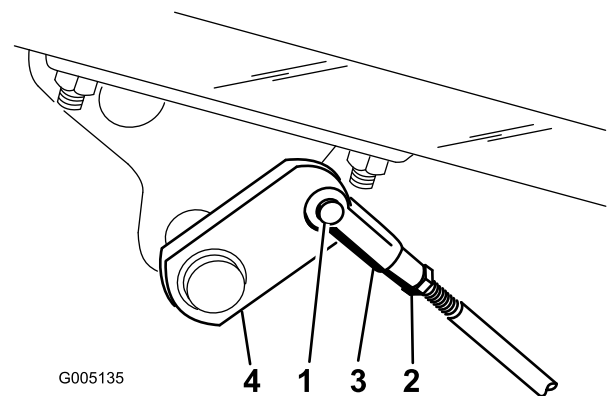

Figure 57
2. If the brakes do not lock equally, disconnect the brake rods by removing the cotter pin and clevis pin (Figure 57).
3. Loosen the jam nut and adjust the clevis accordingly (Figure 57).
4. Assemble the clevis to the brake shaft (Figure 57).